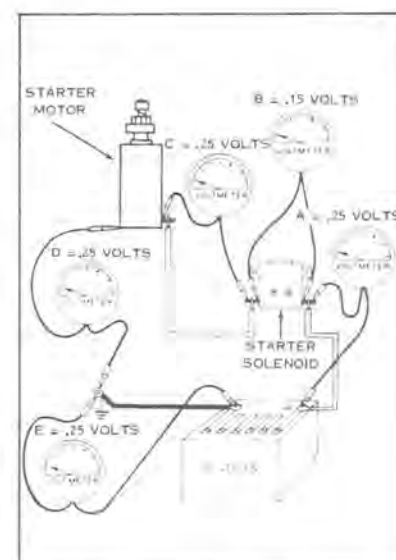

Figure 7-36
- a. By making a systematic check from the positive battery terminal, through the starting circuit and back to the negative battery terminal, any component or electrical connection having excessive resistance, thus causing high voltage drop and subsequent hard starting, can be pinpointed (see Figure 7-36).